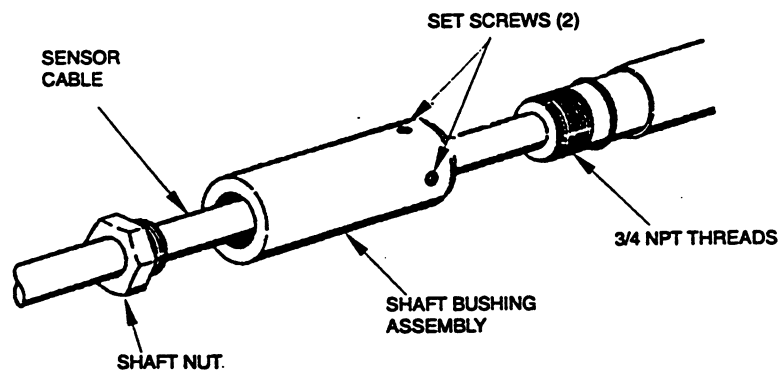

Figure 4. Assembly of Shaft Bushing to Sensor
1. Feed the sensor cable through the shaft bushing assembly. Insert the sensor into the shaft bushing. Tighten the two setscrews to the 3/4 NPT end of the sensor. Wrap ptfe tape onto the threads of the shaft assembly, and tighten the shaft assembly to the shaft bushing connection (see Figure 4).